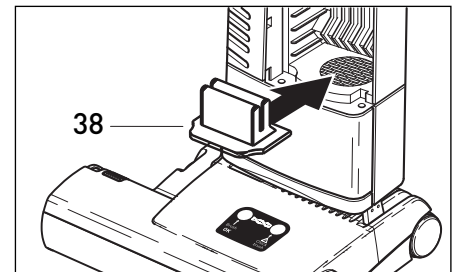

Figure 10
Changing the Electrostatic Microfilter - Figure 10
3. Microfilter not properly inserted.	3. Reinsert filter making sure filter is properly seated and cover is fully closed (see pg. 10, figure 10).